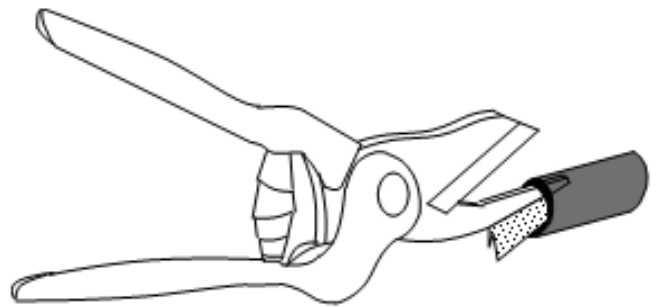

Figure 7 – Use Tabbing Shears to open cable at the Ring Cut
12.01 Use tabbing shears to slit the cable jacket at the ring-cut approximately 1 to 1-1/2 inches. Then peel on side up from the cable to create a tab. See **Figure 7**.